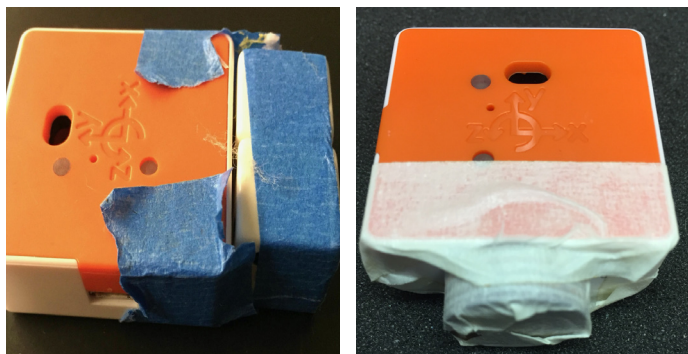

Figure 3 - Sensor attached to base
2. Tape the wireless sensor on top of the two-dice or stack of pennies (See Figure 3). The sensor will represent the Pedestrian Crash Test Dummy and will measure the impact of the crash on the dummy in g's.